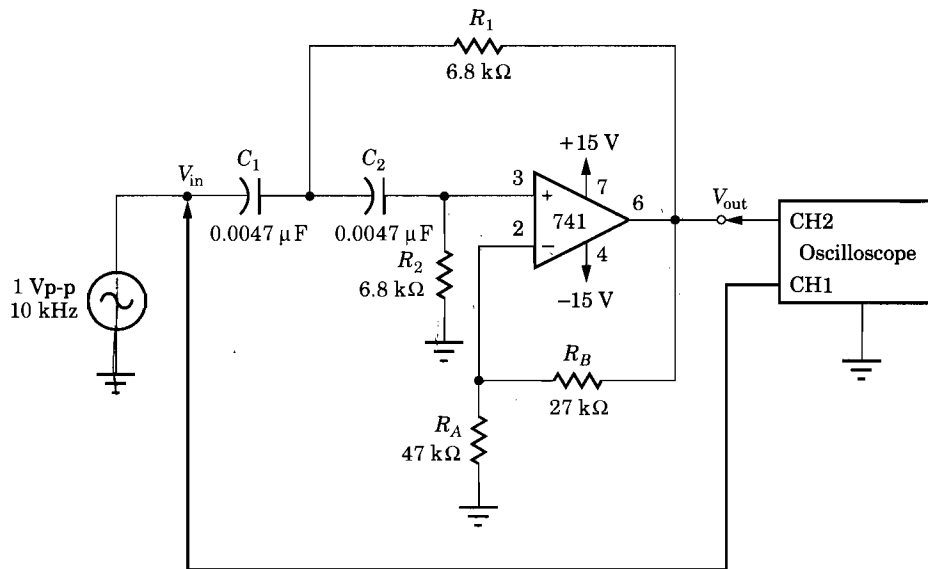

FIGURE 40-1 Schematic diagram of circuit.
1. For the high-pass filter circuit of Figure 40-1, if C_1 and C_2 are $0.001 \mu\text{F}$, the critical frequency is approximately